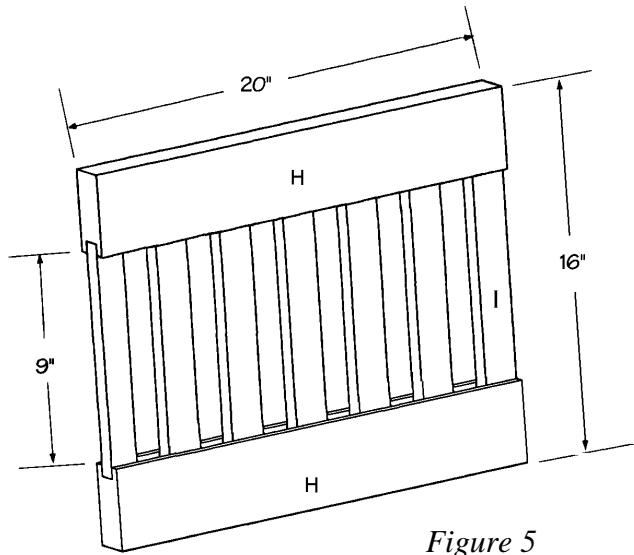

Figure 5
3. Cut seven Back Slats (I) from 1 x 2 pine, each measuring 10 inches long.
4. Working on a level surface, place the Horizontal Backs (H) parallel to each other, with the dadoes to the inside, as shown in *Figure 5*. Fit the ends of the seven Back Slats (I) into the dadoes in each of the two Horizontal Backs (H). The spacing between the slats should be approximately 1-1/2 inches. In fact, we used an extra slat as a spacer. When the Back Slats (I) are properly fitted into the dadoes, the distance between the two Horizontal Backs (H) should measure 9 inches. The two outer Back Slats (I) should be even with the ends of the Horizontal Backs.